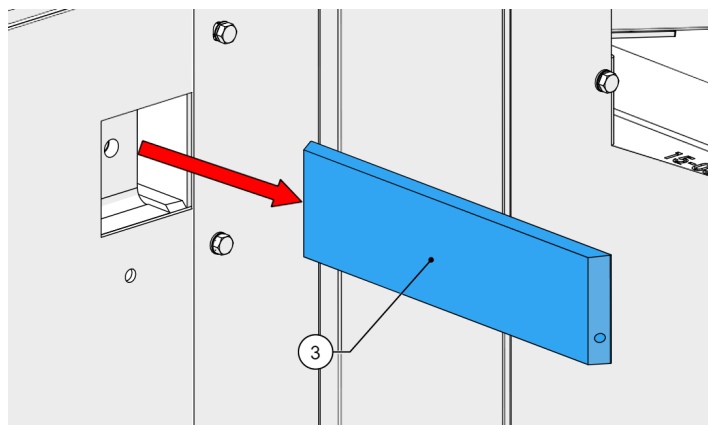

Figure 58 - Anvil removed
10. Using the slide hammer, extract the anvil (3, Figure 58) through the side of the chamber.